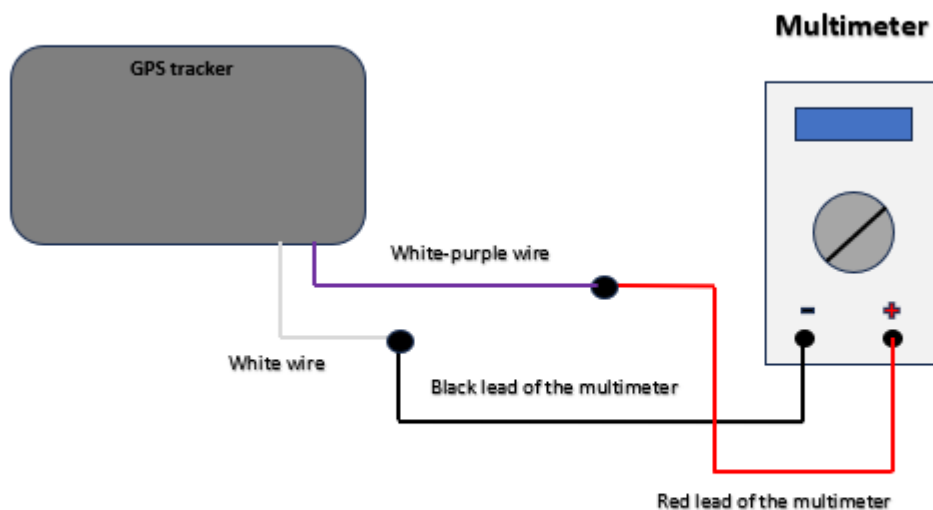

Fig. 10 Connection Diagram
2. Assemble the connection circuit according to "Fig. 10 Connection Diagram."